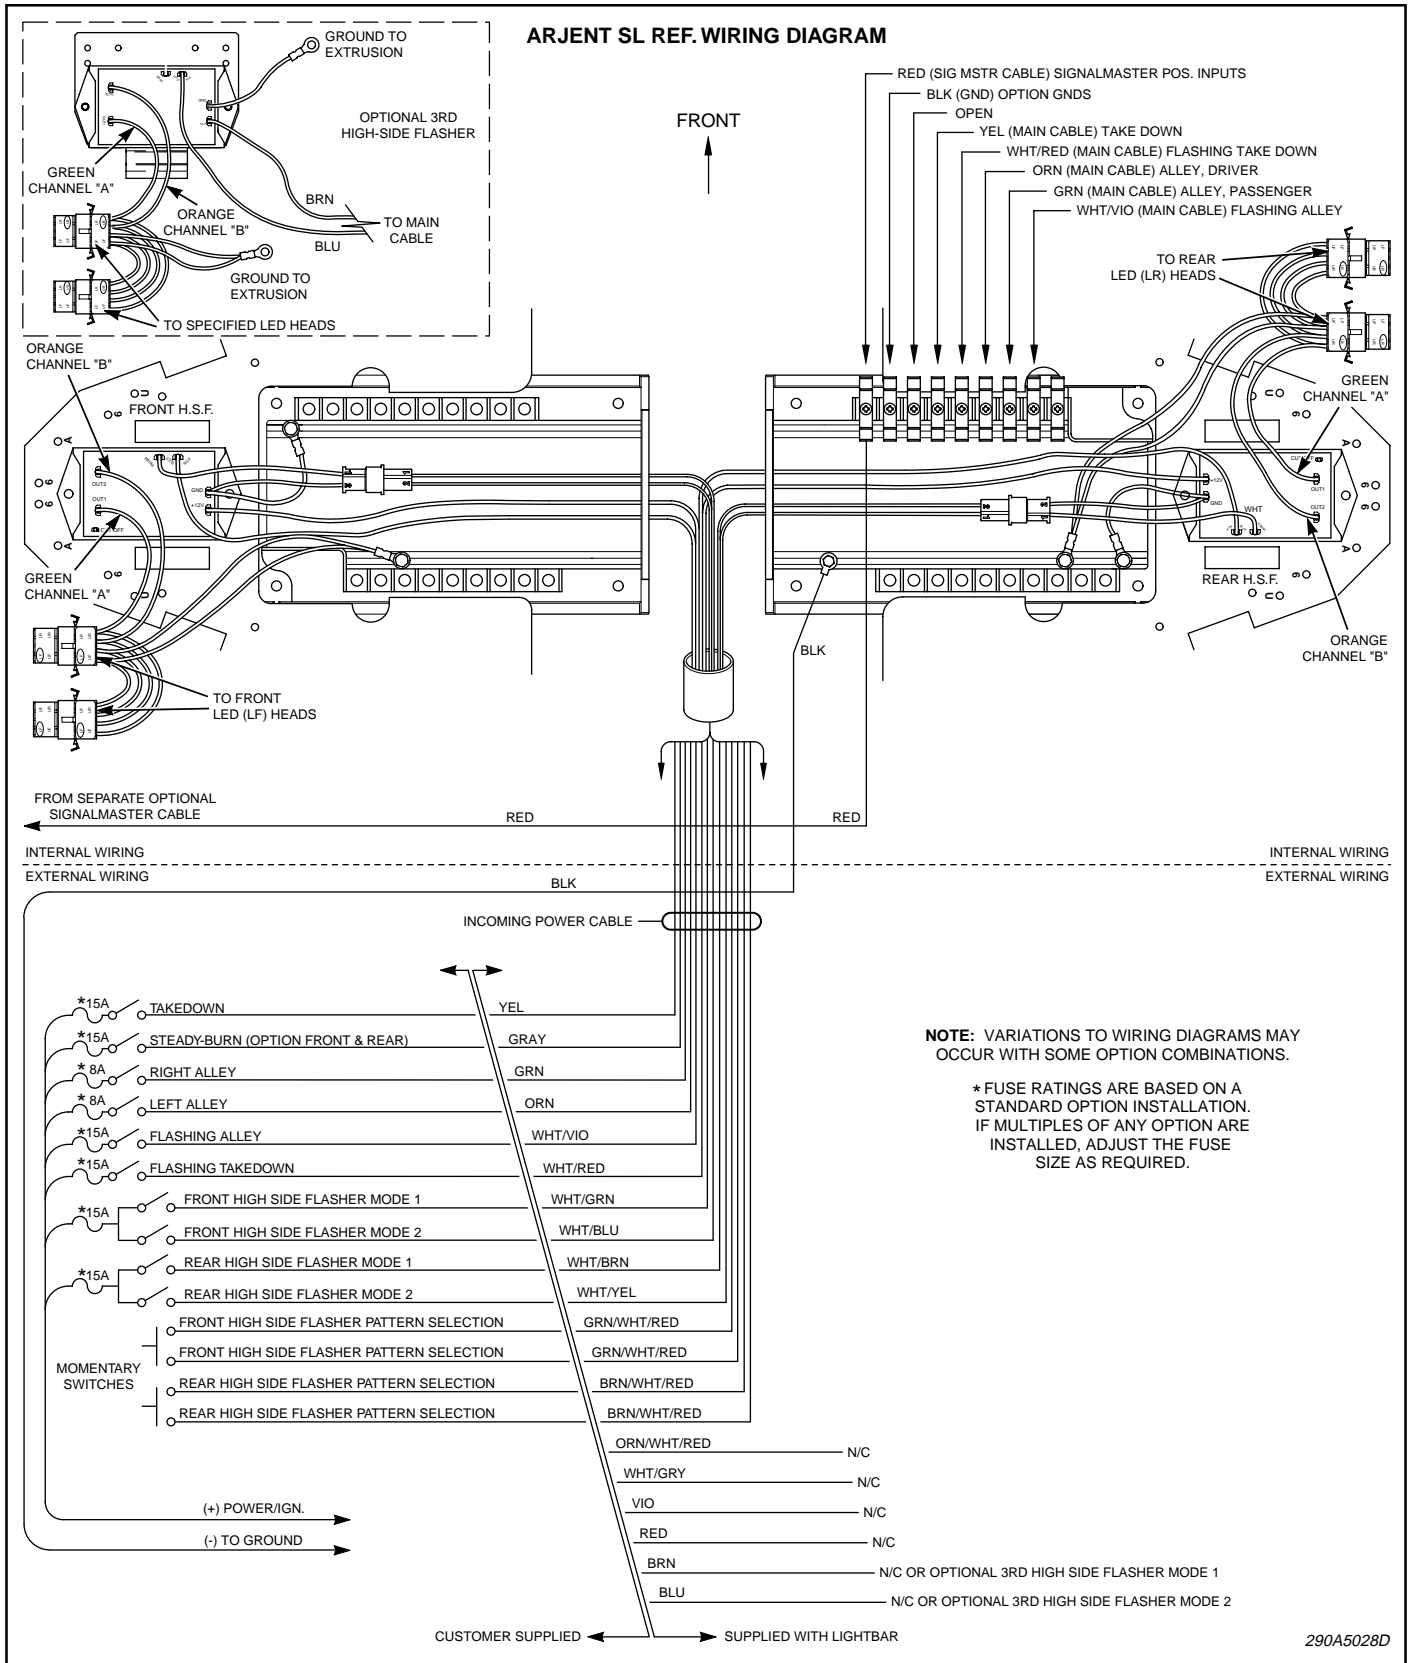

Figure 1.
B. For proper light operation, the control cable must be properly terminated inside the user-supplied control head. Using figure 1 and table 1 as a guide, make the appropriate electrical connections. Ensure that the lines are adequately fused as shown, and that switch capacity is adequate for the current requirement.